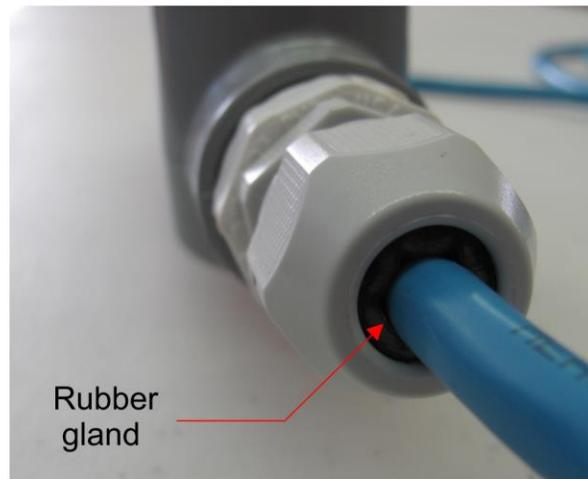

Figure 2.4 Gland tightened onto cable.
9. Tighten the gland. Make sure that the blue insulation is tight inside the gland to avoid water intrusion and epoxy leaking. The black rubber gland will bulge approximately 1 mm when tightened. (Figure 2.4)